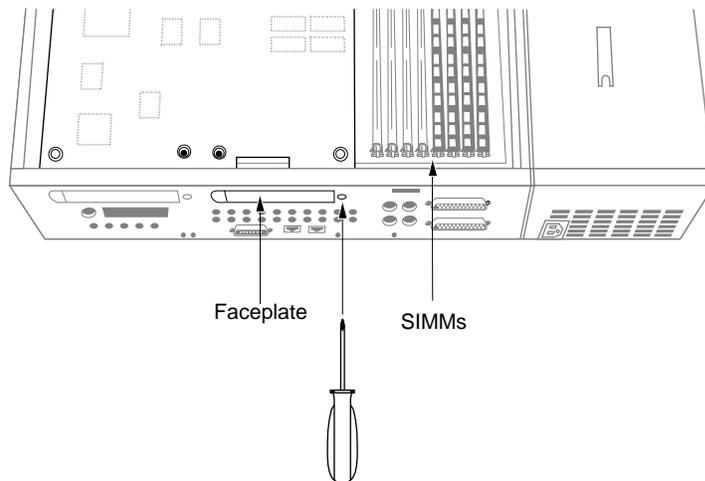

Figure 3-9 Removing the Faceplate From the GIO Option Port
1. Using the Phillips screwdriver, remove the screw from the faceplate covering the GIO option port, as shown in Figure 3-9.